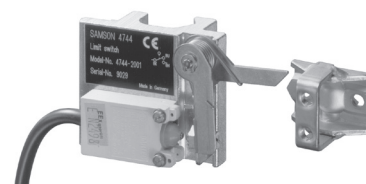

Fig. 3: Type 4744-2 Electric Limit Switch preferably for Series V2001 Valves
- **Type 4744-2** (Fig. 3) · Limit switch with one momentary-contact switch for mounting to the rod-type yoke of Series V2001 valves.